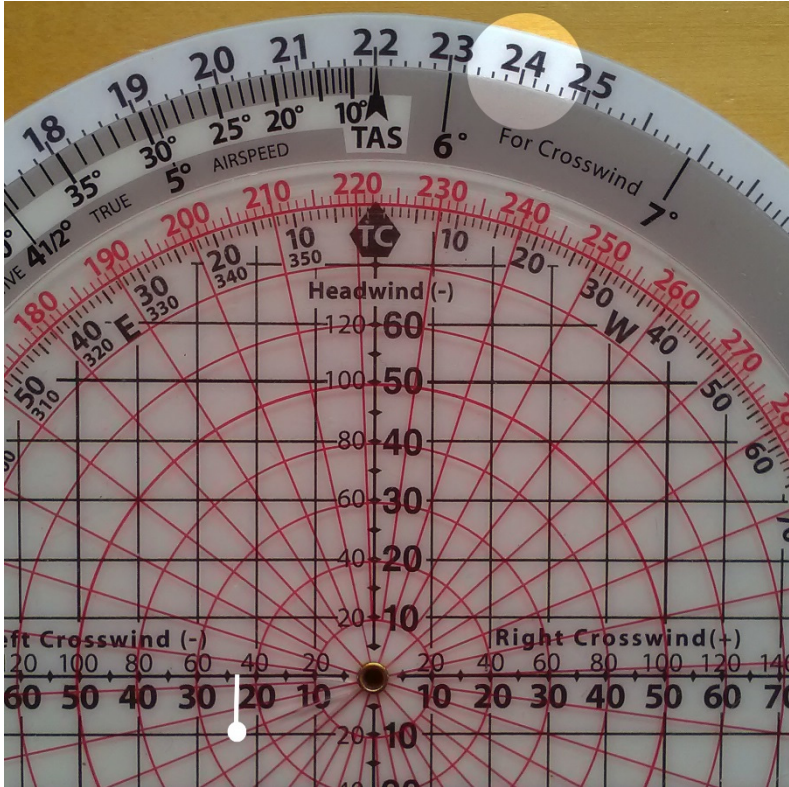

Figure 26.
2. Place magnetic heading (230) above variation (8) on + side.
5. Rotate wind disc  $7^\circ$  (WCA) to the left and note new crosswind component of 24 knots (see Figure 26).